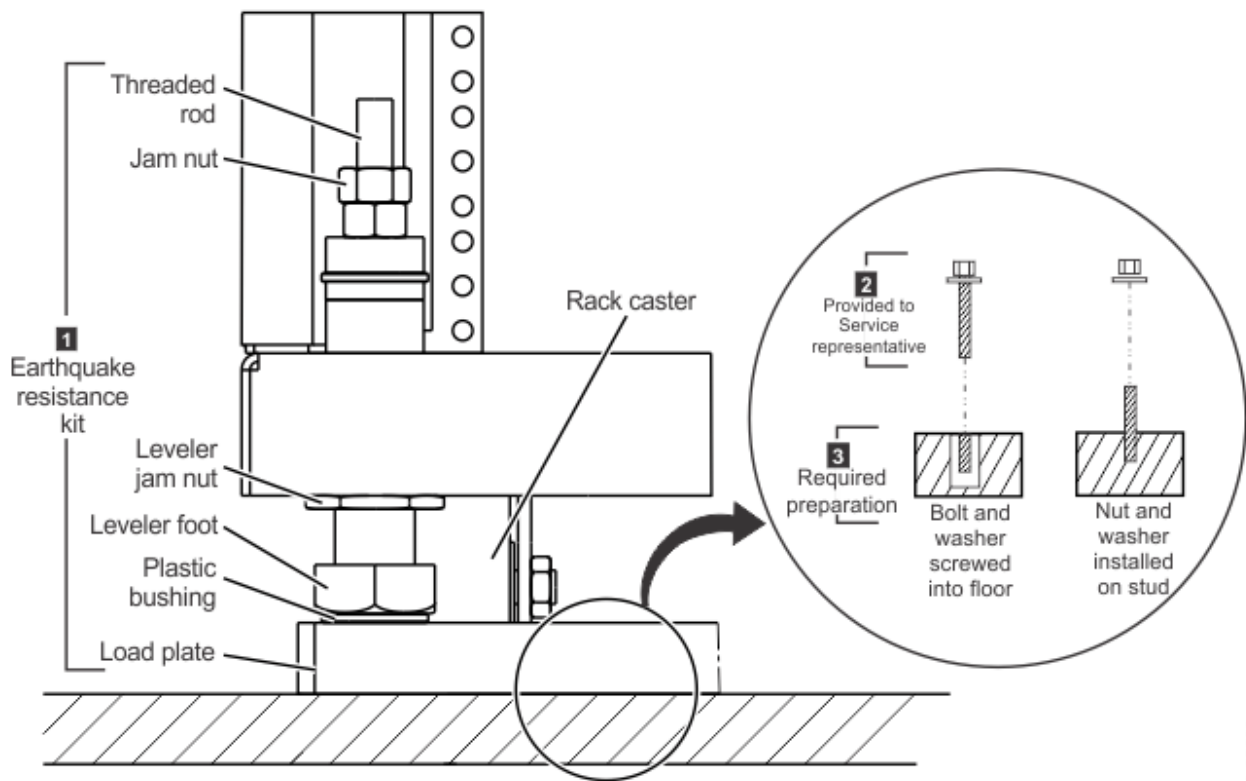

Figure 18. Earthquake resistance kit installed on a nonraised floor.
Figure 18 on page 101 provides an illustration of the earthquake resistance kit (1) after the IBM service representative installs it on the nonraised floor.
Before the IBM service representative installs the kit, you must prepare the area that is shown as (2) in Figure 18 on page 101. This figure shows two of the most common fasteners that you can use.
The following examples provide descriptions of nonraised floor fastener sets. Figure 18 on page 101 illustrates the fastener sets.
3. When the IBM service representative arrives to install the earthquake resistance kit, provide the other fastener parts (2) in Figure 18 on page 101 so that the representative can use these parts secure the load plates onto the floor.